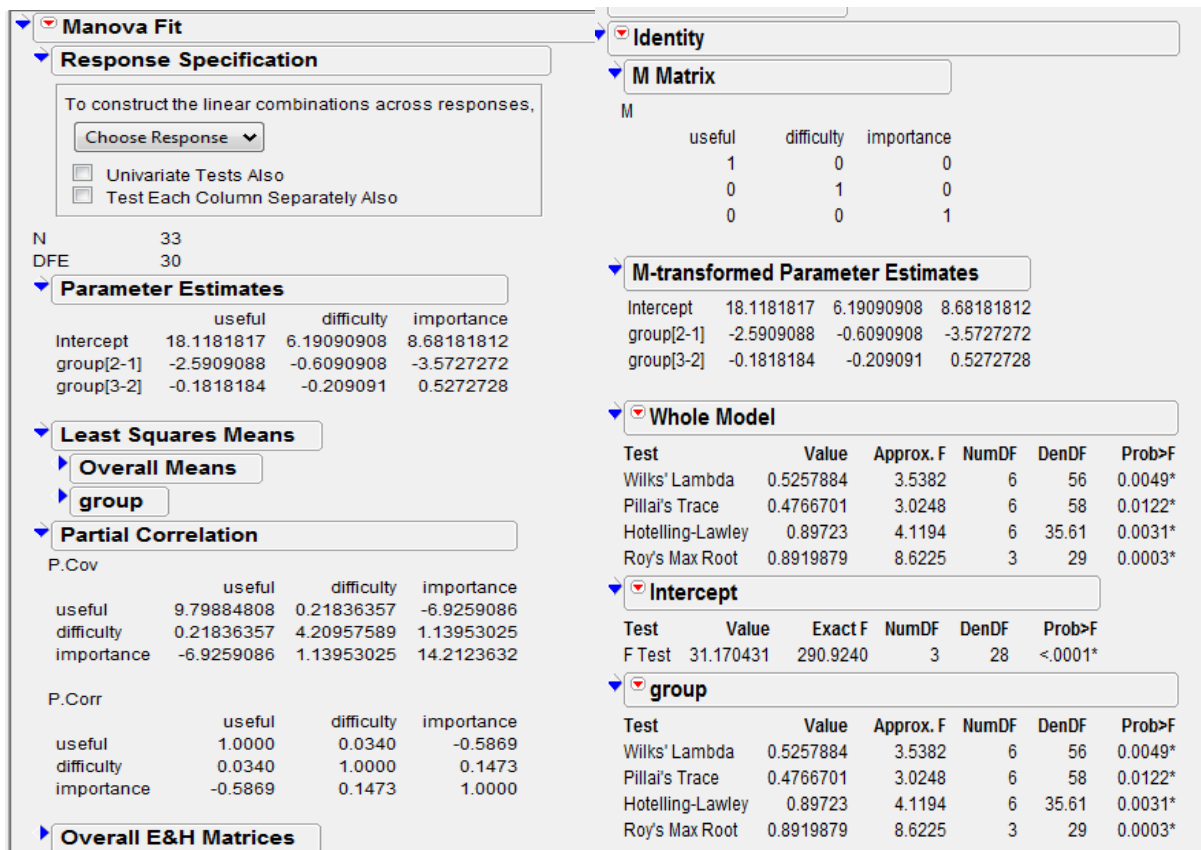

Figure 5.11.1: MANOVA Analysis Output
4. Put the response variable useful, difficulty & importance → **Y** and **Add** group to **Construct Model Effects**. Select **Manova** from **Personality** → **Run Model**. See Figure 5.11.1 for Initial Manova fit.
5. Click **Choose Response** → **Identity** → **Run**. See the Figure 5.11.1.